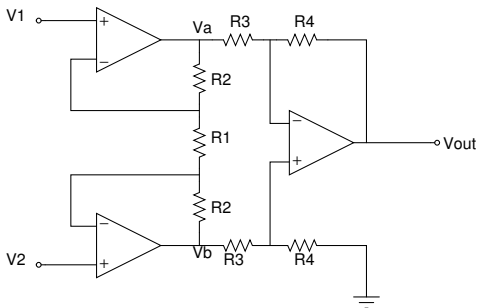

Figure: 1
- 2 Refer to figure 1. Use Load Resistance of 10kohms.  $V_+=12V$ ,  $V_-=-12V$ . Calculate the values of  $R_1$ ,  $R_2$ ,  $R_3$  and  $R_4$  properly to get a gain of about 300 (Keep in mind that any arbitrary value if resistance is not available in lab). Apply a single ended signal of 20mV p-p 1KHz sine wave as input and show the required amplification. Use decoupling capacitance if necessary.